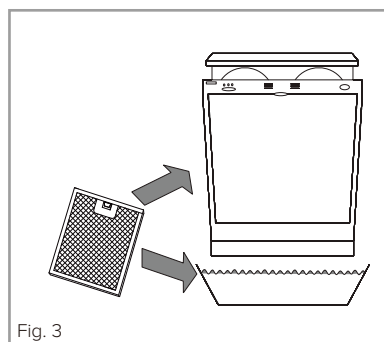

Fig. 3
- Push in the button on the handle and then pull down on the filter at the top as shown in Fig. 3.